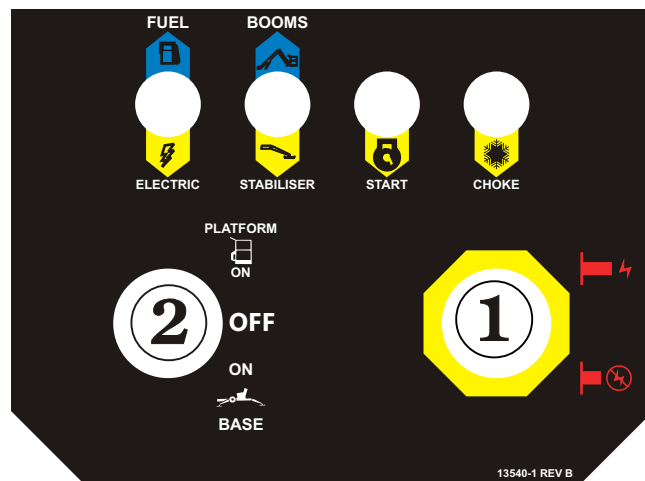

Figure 11.1 - Ground Control Box, Hydraulic Controls
1. The **Emergency Stop** switch ① must be (ON) (see Figure 11.1).
2. The **Platform/Ground Selector** switch ② (see Figure 11.1) must be set to PLATFORM.